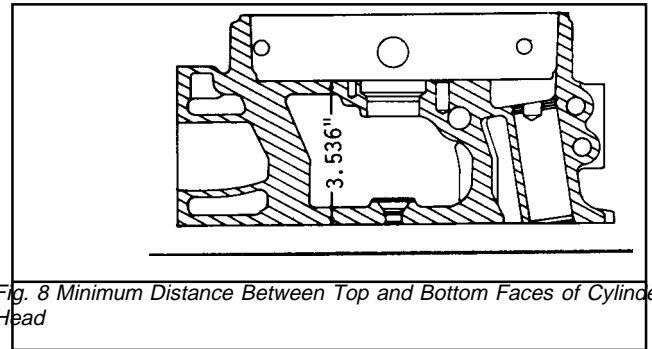

Fig. 8 Minimum Distance Between Top and Bottom Faces of Cylinder Head
- (c) If the cylinder head is to be refaced, remove the injector tubes prior to machining. Do not remove more than .020" (total) of metal from the fire deck of any cylinder head. The distance from the top deck to the bottom (fire deck) of the cylinder head must not be less than 3.536" (Fig. 8). Stamp the amount of stock removed on the face of the fire deck near the outer edge of the head, in an area not used as a sealing surface.